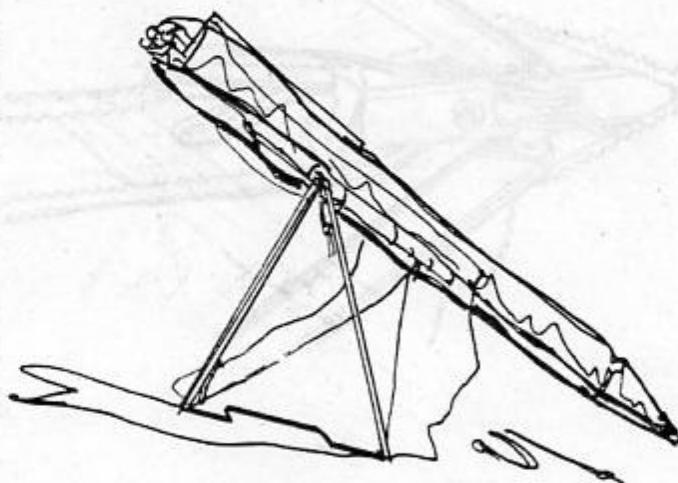

Fig. 5.1.5.
7. Fold the wings. Spread the sail so that both the top and bottom surfaces of the sail are equally taut, roll the sail and place it along the leading edge (Fig. 5.1.5). Fix the sail with tighten tapes.